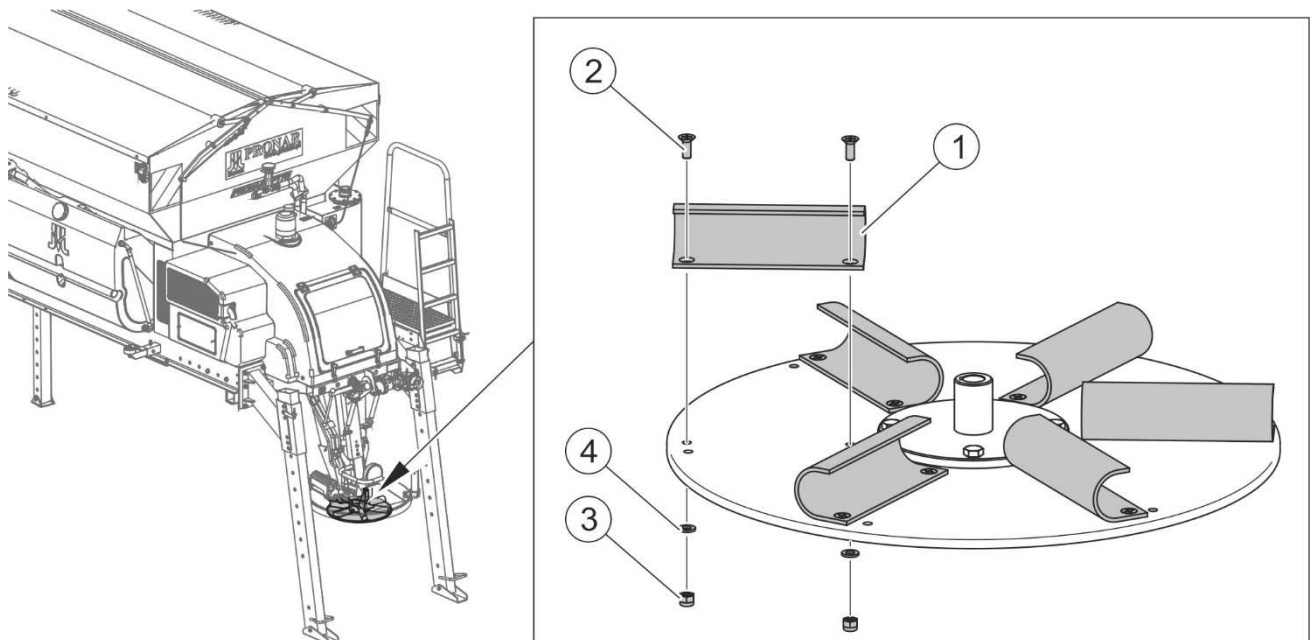

FIGURE 5.12 Replacement of spreading mechanism disc blades
- Undo nuts (3) (FIGURE 5.12),
- Remove bolts (2) and washers (4),
- Replace blades (1) with new ones, check condition of bolts and nuts, if necessary replace (see TABLE 5.5).